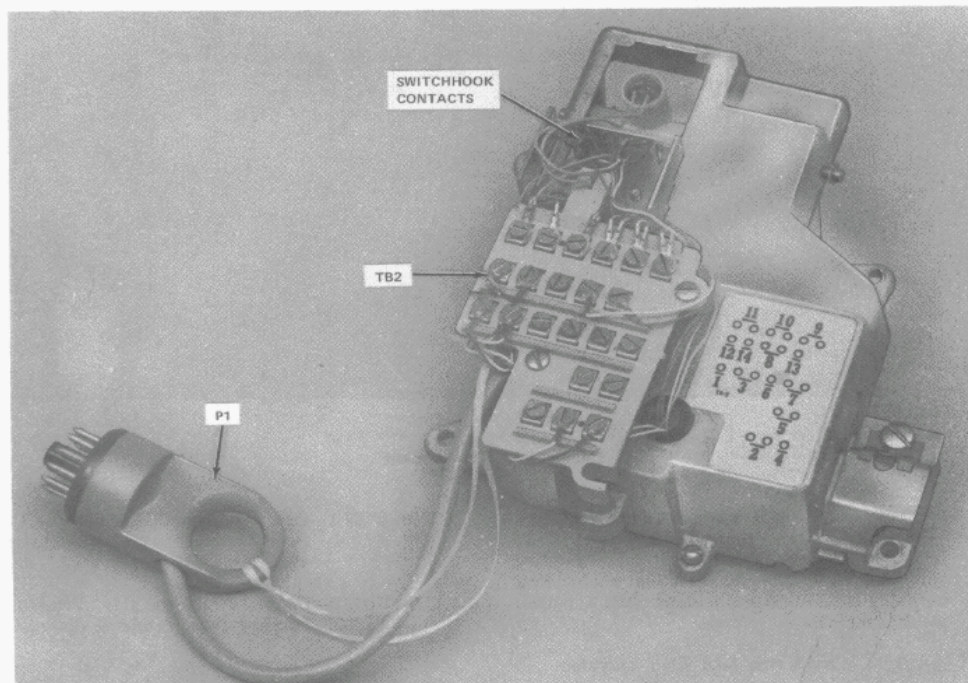

Fig. 7—Typical Coin Dial Unit
- (1) **B Relay**—The B relay contacts close during totalizer readout and place a capacitor across the speech circuit to prevent the customer from hearing coin signals.
- (2) **Coin Signal Oscillator**—Generates a dual frequency signal, controlled by totalizer readout indicating to the operator what value of coin has been deposited.
- (3) **A Relay**—Provides ground lifting in DTF mode and controls totalizer readout in CF mode.
- Dial and Housing Assembly (Fig. 7)**
- 2.13 The dial and housing assembly contains the switchhook contacts and rotary or TOUCH-TONE dial. The switchhook contacts are operated as the handset is lifted. Contacts SH1, SH2, and SH4 perform the same functions in both CF and DTF modes. SH3 differs as described in (3).